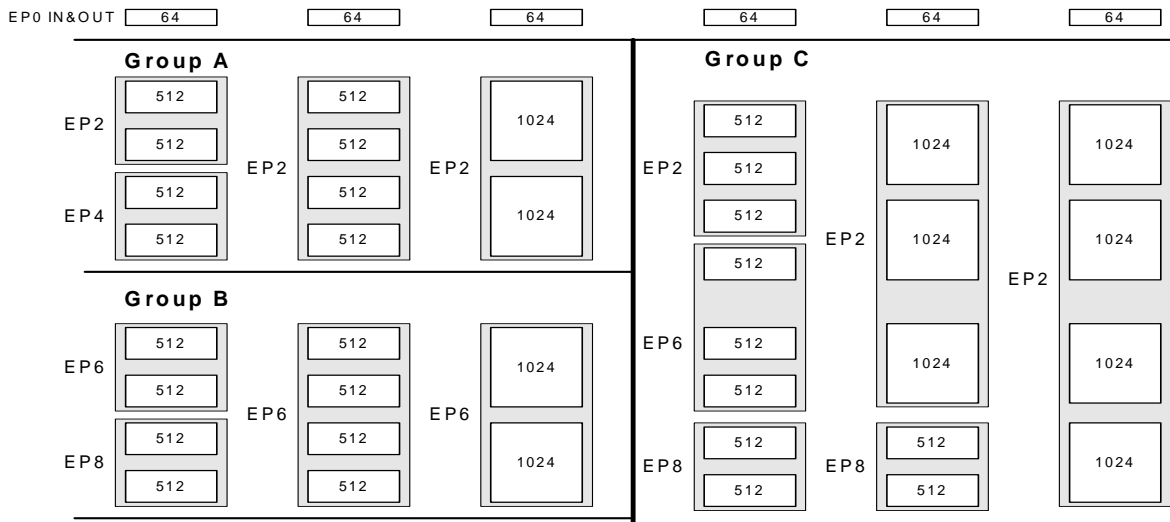

Figure 3-1. Endpoint Configuration
- EP2, 4, 6, 8—Eight 512-byte buffers, bulk, interrupt, or isochronous. EP2 and EP6 can be either double-, triple-, or quad-buffered. EP4 and EP8 can only be double-buffered. For high-speed endpoint configuration options, see *Figure 3-1*.
Endpoint 0 is the same for every configuration as it serves as the CONTROL endpoint. For Endpoints 2, 4, 6, and 8, refer to *Figure 3-1*. Endpoints 2, 4, 6, and 8 may be configured by choosing either: